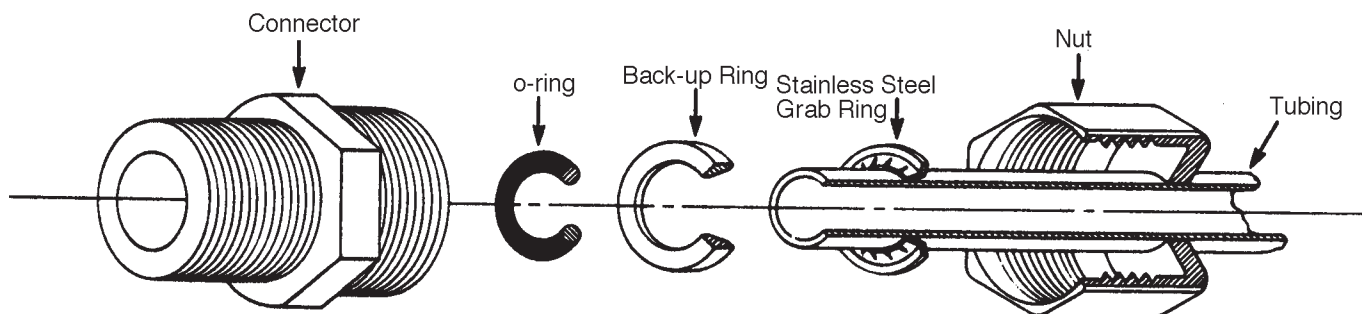

Figure 4 Typical Polypropylene Tubing Connector Installation
9. Remove the tubing connector from the ends of the Remote Dispenser tubing. Retain for use as replacement parts. See Figure 4 for identification of the connector components.
1. Completely disassemble the fitting. Refer to Figure 4 to familiarize yourself with the names of the component parts.
3. Place the grab ring and back-up ring in the hex nut in the order and orientation shown in Figure 4. Thread the nut onto the connector. Do not use the O-ring at this time.